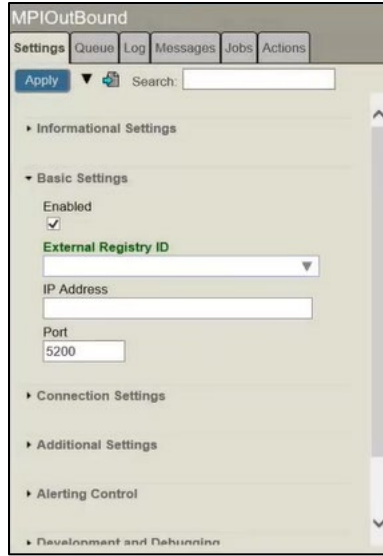

Figure 4-5: MPIOutBound
- b. Click on **MPIOutBound**. The dialogue box at the right opens (Figure 4-5).